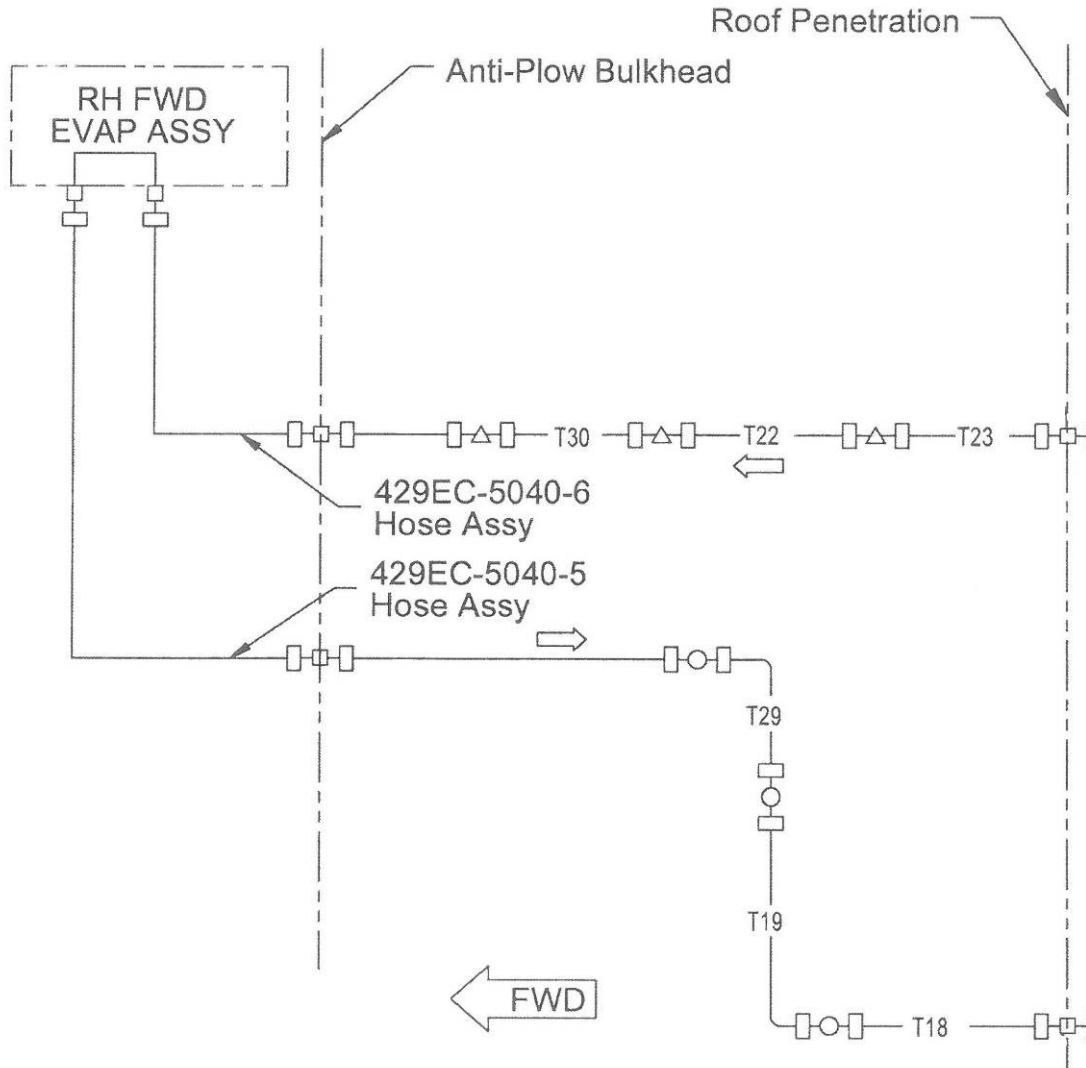

Figure 8: Single Forward Evaporator Plumbing Schematic
10. Install 429EC-5040-5 and 429EC-5040-6 Hose assemblies between the S-6029EC-2 Right Forward Evaporator and the bulkhead fittings, see Figure 8.